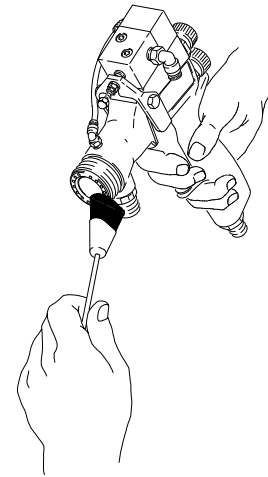

Fig. 26 02775A
- D. Soak the air cap ring (12), air cap (19), and fluid nozzle (20) in soapy water.
- E. Dip a soft-bristle brush into soapy water, point the gun down, and clean the front of the gun. Do not use a wire brush. See Fig. 26.